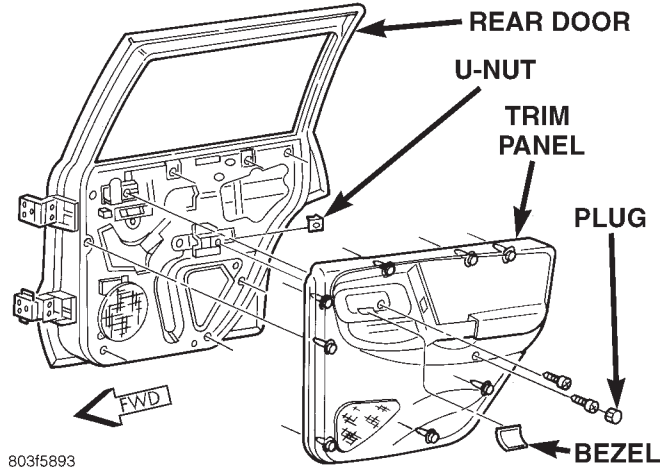

Fig. 4 Rear Door Trim Panel Remove/Install
- (3) Remove the door trim panel mounting screw located in the bezel opening near the inside door latch release handle (Fig. 4).